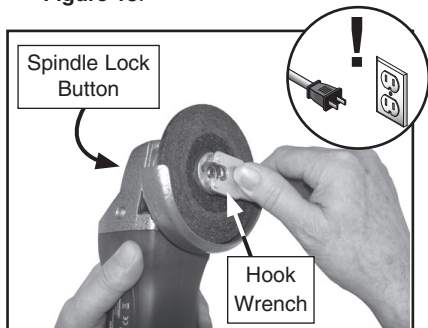

Figure 18. Changing grinder wheel.
2. While holding the spindle lock button, position the fixed pin spanner wrench in the outer flange and turn counterclockwise to loosen the flange, as shown in **Figure 18**.